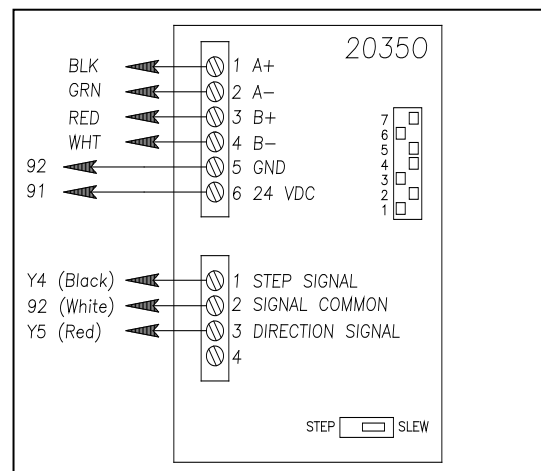

Figure 3-142. Print Head Stepper Drive
14. Set Jumper to "SLEW" (Figure 3-142).